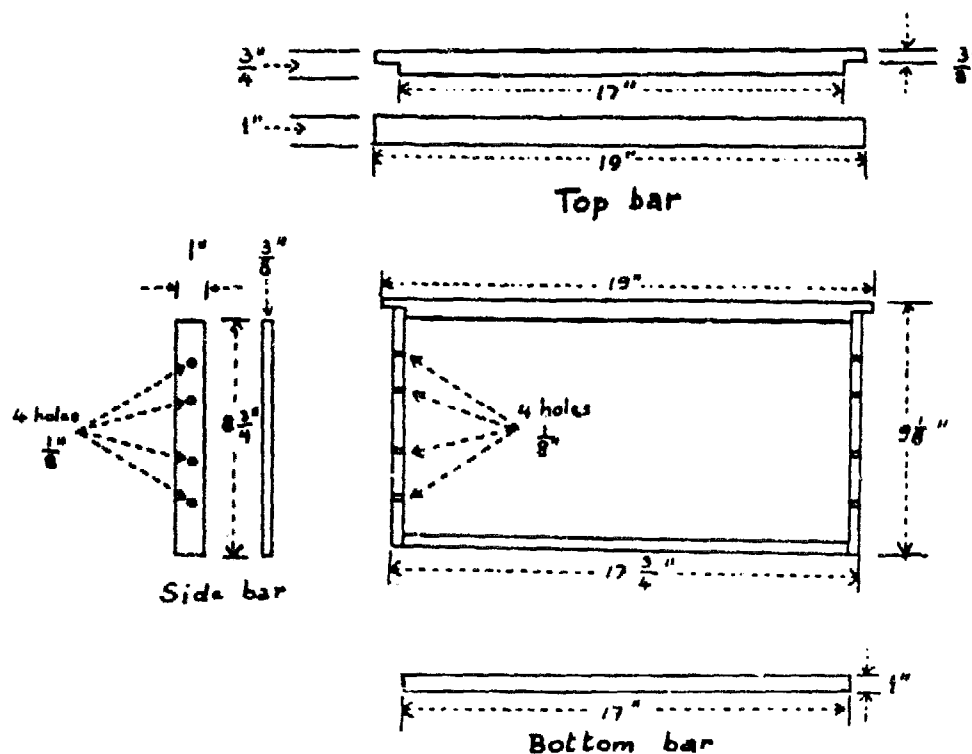
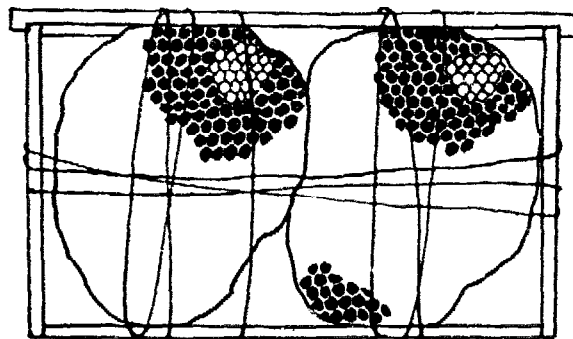

Figure 2. Langstroth frame
Figure 5. Tying old comb to a frame
Figure 2 shows the staple-spaced frame. Frames should be made from good, clean lumber. The frames must be carefully made so they will fit easily into the hive.
Figure 2 shows this groove. If the frame is used again, the groove may be cleaned with a nail or piece of hard wire. New foundations are now available that have built-in reinforcement and requires no wire. If wax foundation is not available, pieces of old comb from a wild hive can be tied to the frames to help the bees start storing honey and rearing brood (see Figure 5).
- . Side bar: Each is made of 0.97cm (3/8") thick wood and is 22.23cm (8-3/4") long and 2.54cm (1") wide. There are four holes in each side bar for wiring the frames (see Figure 2, page 12). These holes should be drilled before assembling the frame.